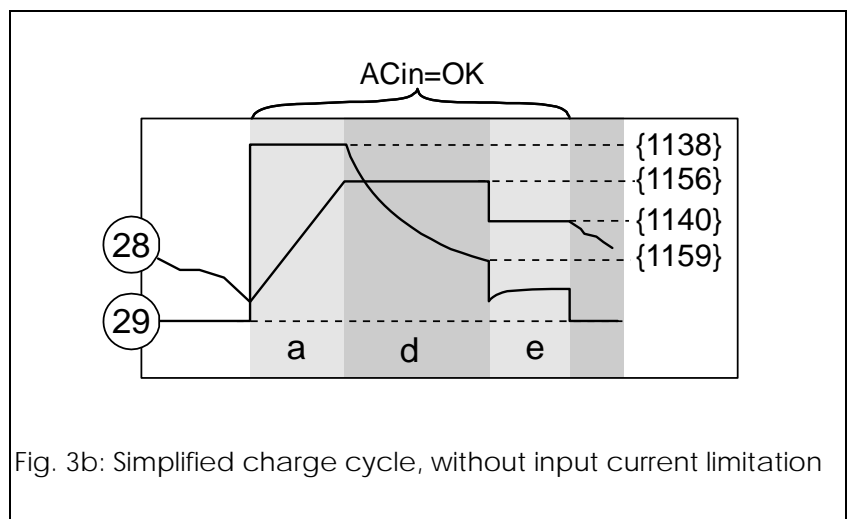

Fig. 3b: Simplified charge cycle, without input current limitation
The Xtender is intended to be supplied by alternative voltage sources such as the public grid or a generator. Check that the rated voltage of the source corresponds to the rated voltage (34) of the Xtender specified on the type plate (fig. 3b).
The source must be connected to the input terminals marked "AC INPUT" (13) with sufficient wire section, depending on the power output of the source, and protected by a protection device of the appropriate calibre. This will be at the maximum equal to the current I AC in max (35) specified on the type plate (fig. 3b). The terminals are marked in the following way: